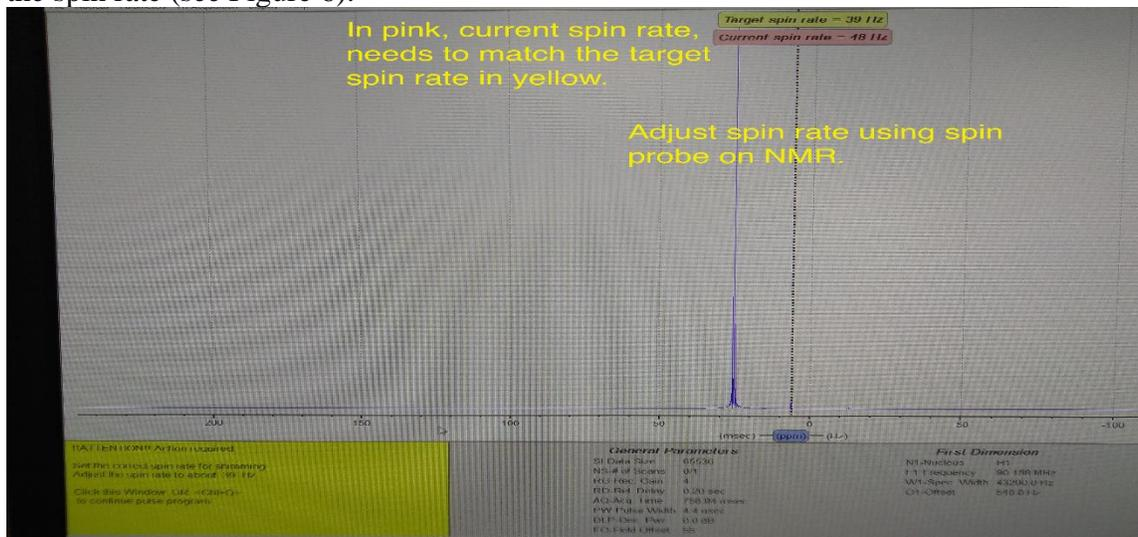

Figure 6. aii screen after the ATTN message, Target spin rate is 39 HZ (will appear in yellow) and current spin rate will appear in pink.
- 5) NMR will start shimming (left side bottom of the screen will change green, indicating that that shimming process is in progress). After few minutes (or seconds) the left side bottom of the screen will change to yellow with an ATTENTION message about the spin rate (see Figure 6).